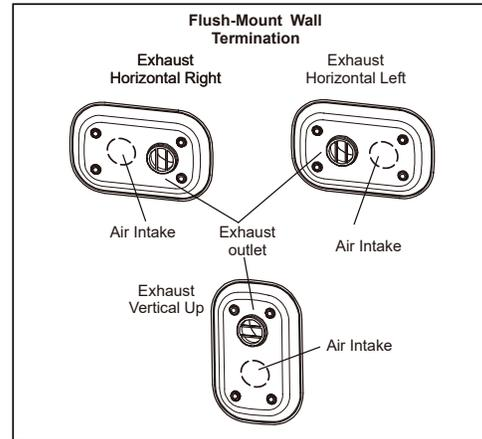

Fig.7-16
2. Exhaust vent pipe can be located horizontally left, right, or vertically up from the air intake pipe. See Fig.7-16.